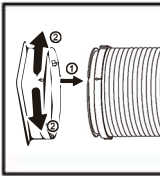

Fig. 1
1. Align the arrows on the hose inlet connector and the hose. Attach the hose inlet connector by turning it either clockwise or counterclockwise. (fig. 1)